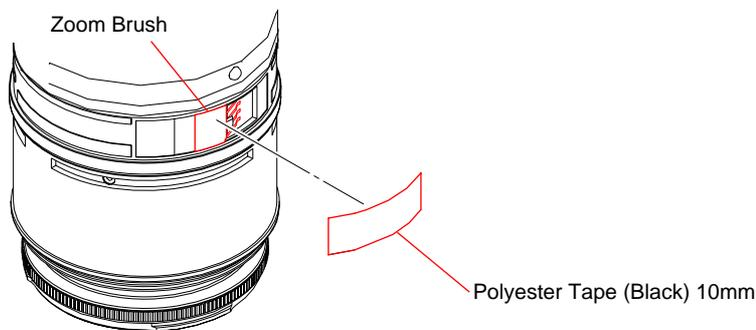

Fig. 4-6-5
- 2) Remove the polyester tape (black) 10mm as shown in Fig. 4-6-5.
- 4) Fix the zoom brush with the polyester tape (black) 10mm as shown in Fig. 4-6-5.